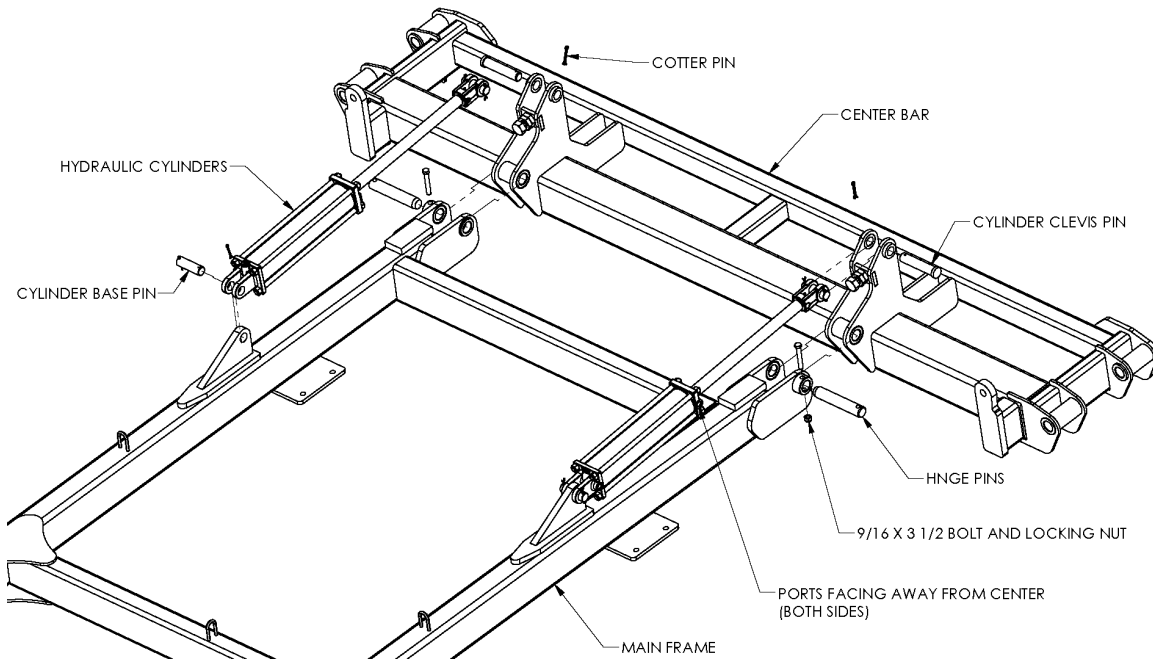
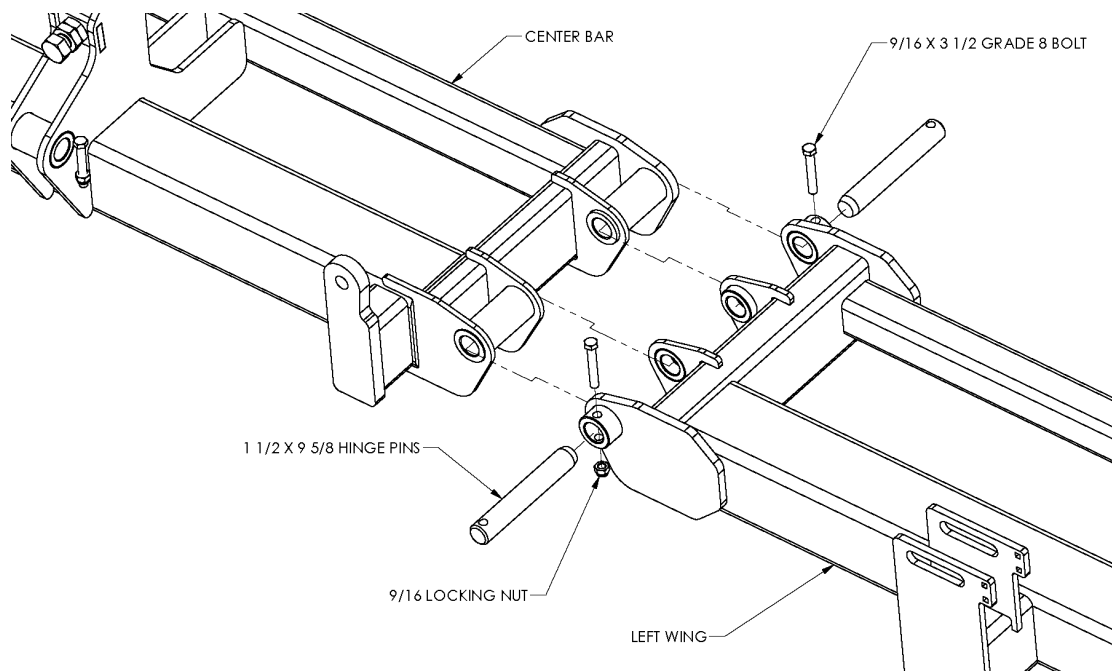

Figure 6
Figure 7
1. Attach the center bar to the square frame. Refer to Figure 6. Use the (SPR-2712) 1 1/2" x 8 5/16" hinge pins for HDL-1124 - 1138, (RT-2107) 1 1/2" x 9 5/8" for HDL-1140 – 1150 and (RD-5061) 1 1/2" x 12 1/4" for HDL-1150 – 1160, using 9/16" x 3 1/2" grade 8 bolts, and locking hex nuts.
Attach the wings to the center bar using two (RT-2107) 1 1/2" x 9 5/8" hinge pins and the 9/16" x 3 1/2" grade 8 bolts and locking hex nuts. Note the location of the wing cylinder posts (Figure 6) and the orientation of the wing axle mount plate (Figure 7).